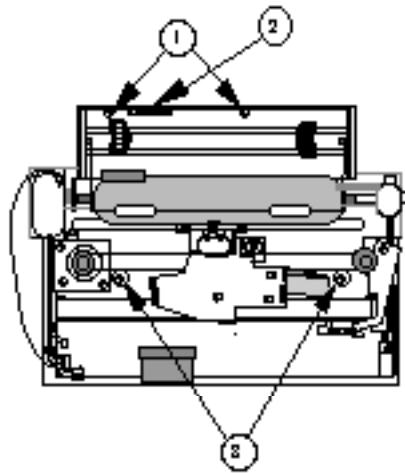

FIGURE 13
13. Remove the two screws (Figure 13, #1) that secure the upper mechanical assembly frame to the printer case.
14. Remove the sheetfeeder option plug screws and bracket (Figure 13, #2) at the back of the printer . Gently push this connector to the rear of the printer off its mount. This step is important when separating the mechanical assembly from the printer case.
15. Remove the two shock mount screws (Figure 13, #3) located in the bottom of the printer below the carriage. After removing the screws, move the carriage assembly all the way to the right.